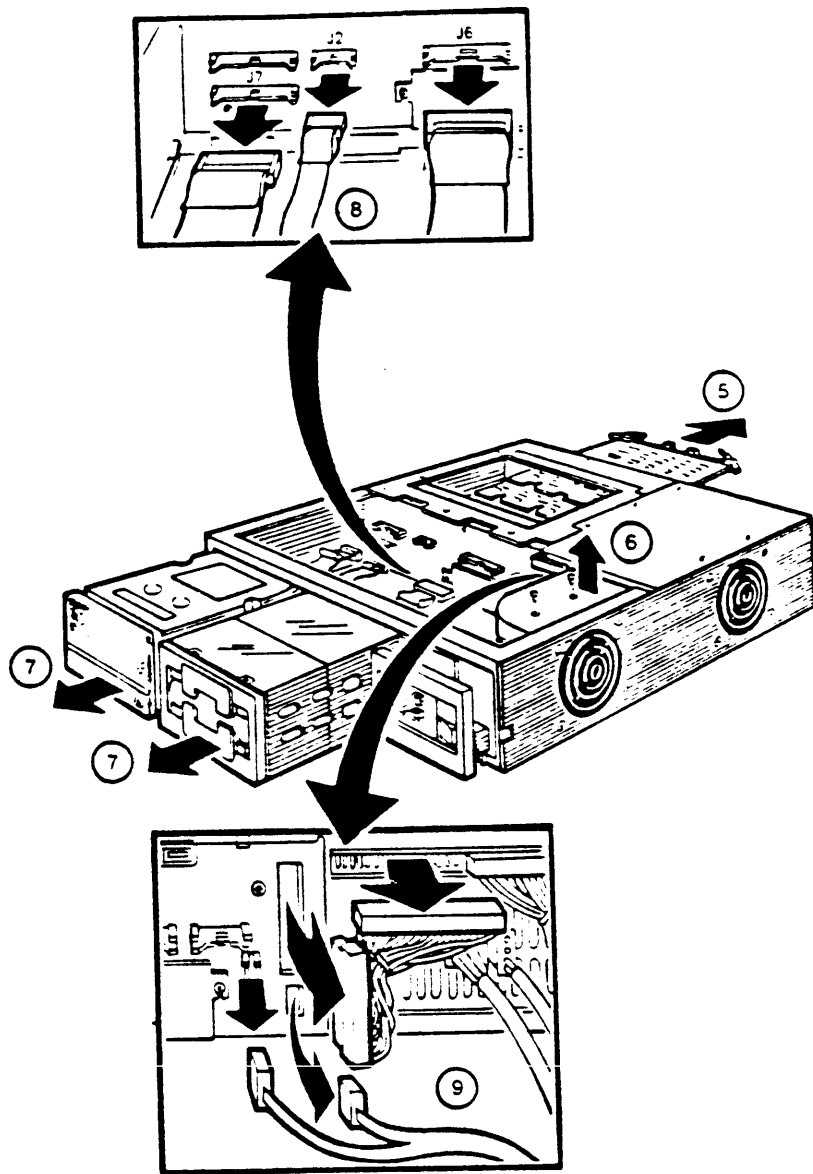

Figure 8-19 Backplane Removal Removal (2 of 4)
5. Remove all modules (Figure 8-19) Refer to 6.9 for instructions.